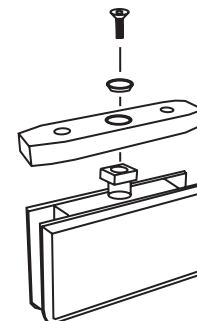

Figure 3 - Pivot Hinge Mounting With No Header Clip
2. Insert adaptor block into header with square recess facing downward. Align in header as necessary. Mark for hole and drill with 1/4" drill bit as shown in figure 3.